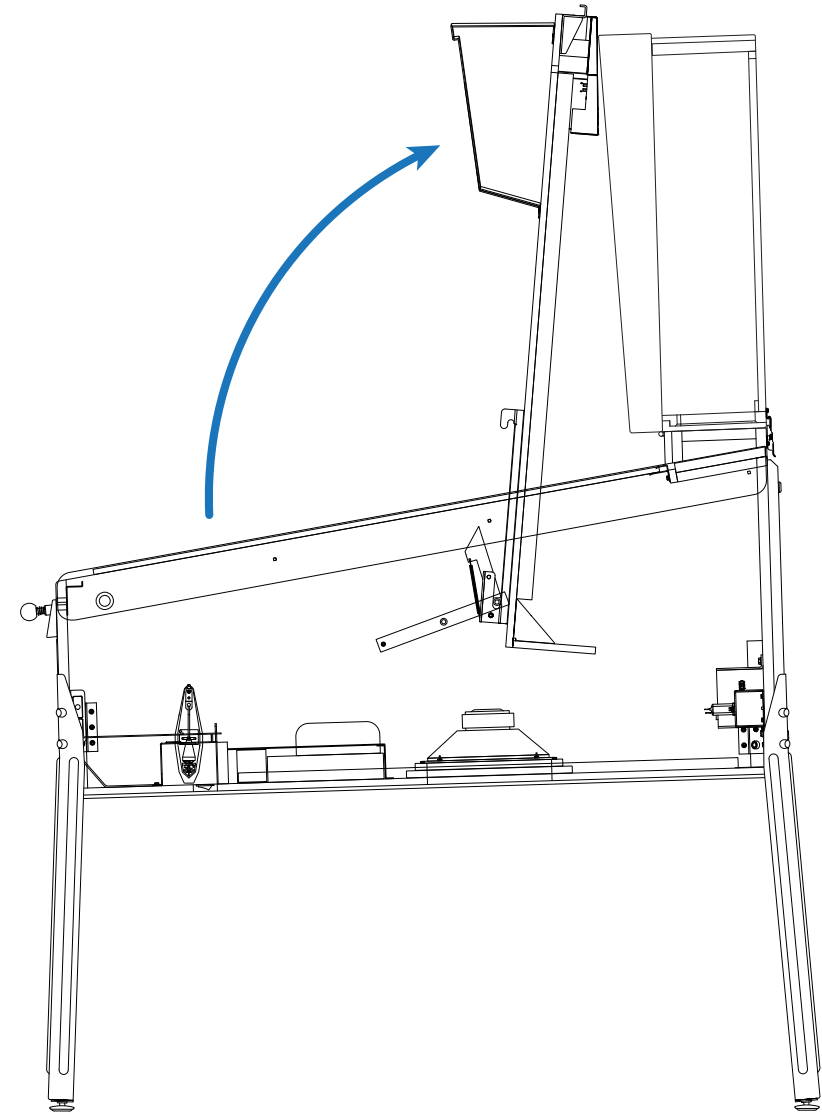

Figure 1-16. Moving the playfield to position 4.
17) REMOVE ALL FOUR BALLS FROM THE GAME (no ball in the shooter lane, back panel lock, subway or any playfield eject hole). Move the playfield from position 3 to 4 (figure 1-16). Grasp the two playfield support brackets and pull the playfield outward and upward a bit until the playfield support/slide locks **ON BOTH SIDES** click in place, then swing the playfield up, carefully resting the bottom arch against the front of the backbox.